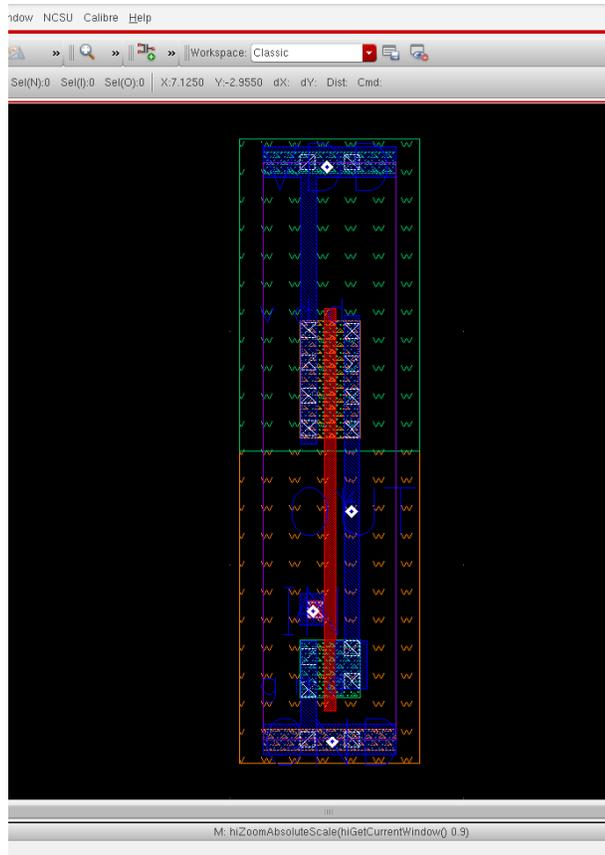

Figure 6: Layout of the Inverter.
4. Your final layout should look like figure 6.